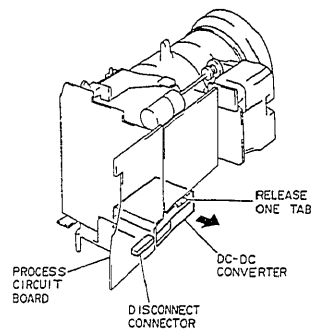

Fig. 2-14
- 1) Disconnect connector (CN1327) on the process circuit board. (See Fig. 2-14)
- 2) Release one (1) tab and pull out the DC-DC converter from the its holder in the direction of the arrow.